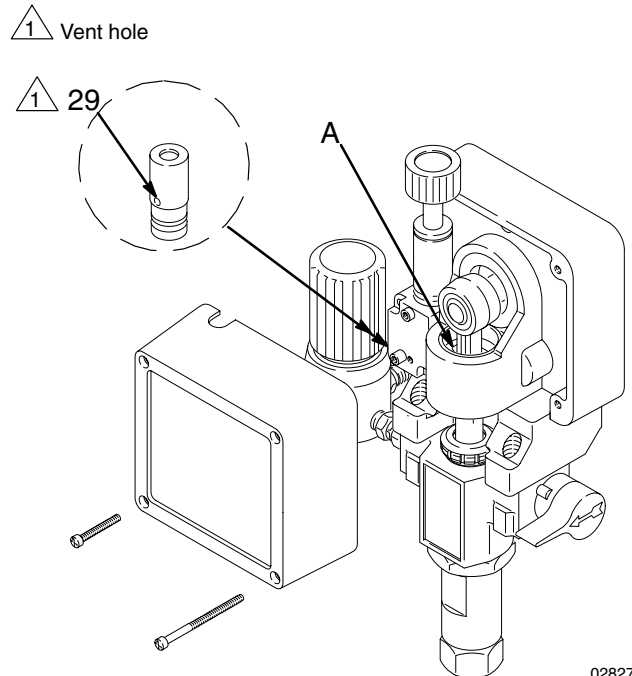

Fig. 9
5. **Lubricate the bearing housing** after every 100 hours of operation. Remove the front cover. Fill the bearing housing cavity (A) with SAE 10 non-detergent oil. See Fig. 9.